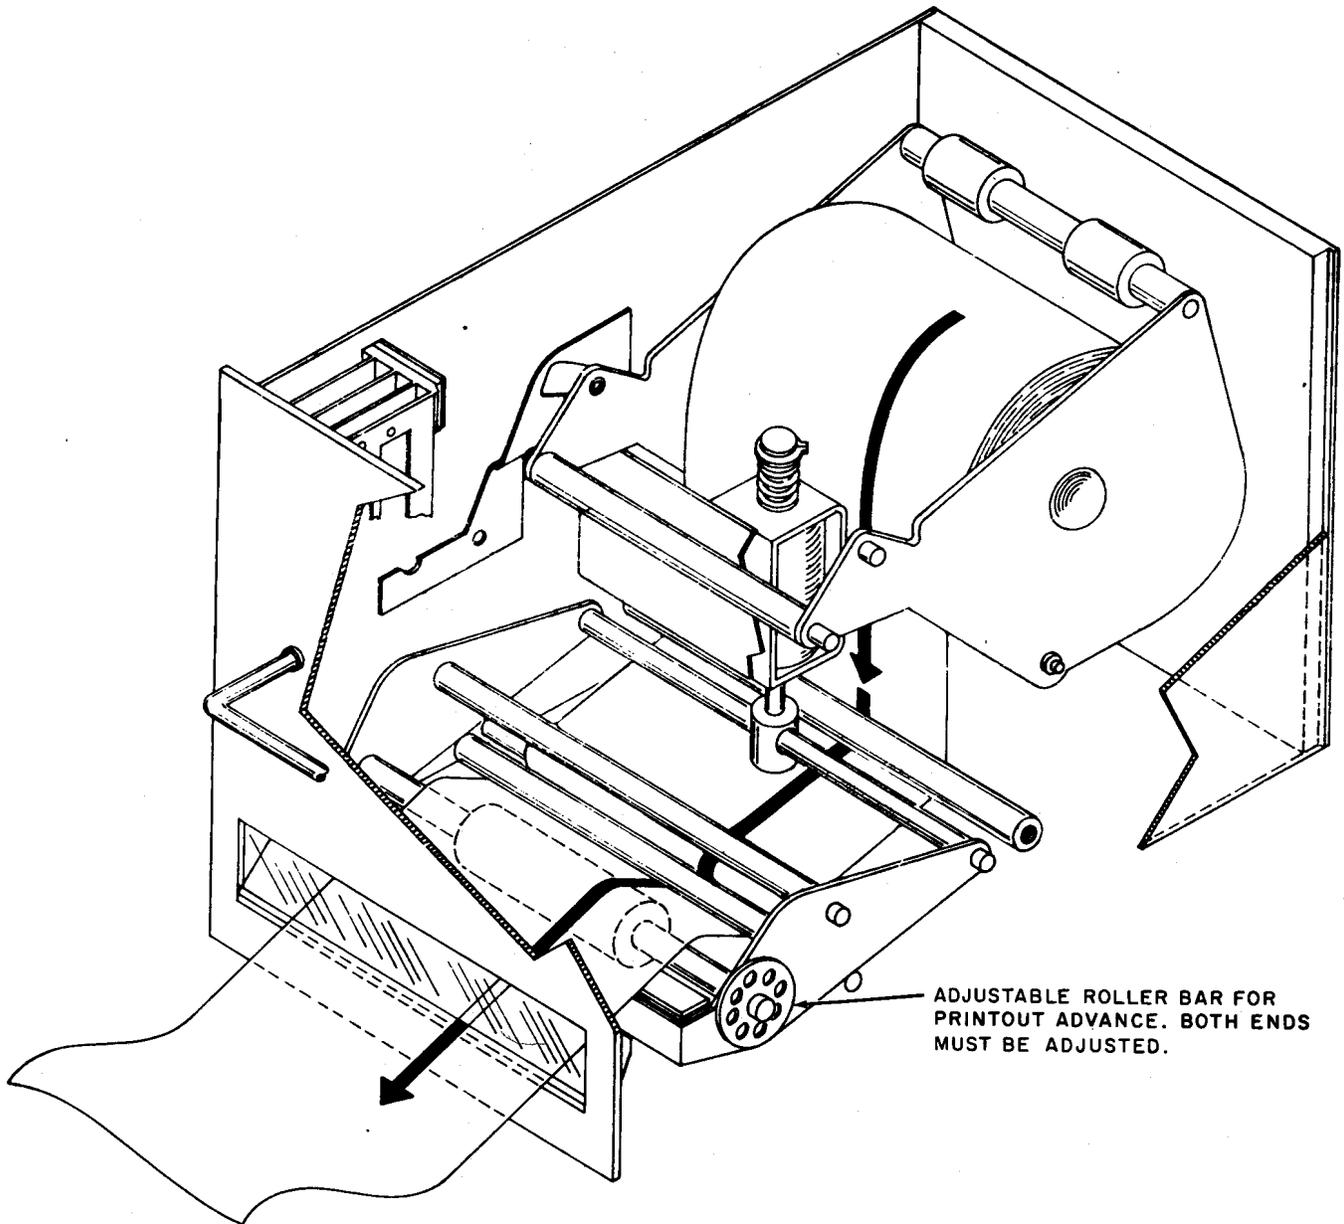

Fig. 2—Paper Path
- (1) With paper bale assembly up, extract the paper shaft removing old core.
- (2) Reload with new roll. See Fig. 2.
- (3) Check that paper roll rotates freely on shaft.
(4) Thread paper following path shown on Fig. 2. This will be facilitated by folding the leading edge of the paper into an arrow and then creasing up 2 inches behind the tip.
(5) With the paper extending through the cutout in the front plate and held taut, allow the paper bale assembly to drop into operating position.
2.05 Visually check that paper advances with adequate separation between lines. (Adequate separation is defined as the amount of space needed for legibility of the printout.) If separation is inadequate, adjust the two eccentric bearings (screw adjustment bushings) that support the paper advance roller. See Fig. 2. Adjustment must be made with constant pressure on the paper bale assembly. Paper skew is checked and adjusted in the same manner.